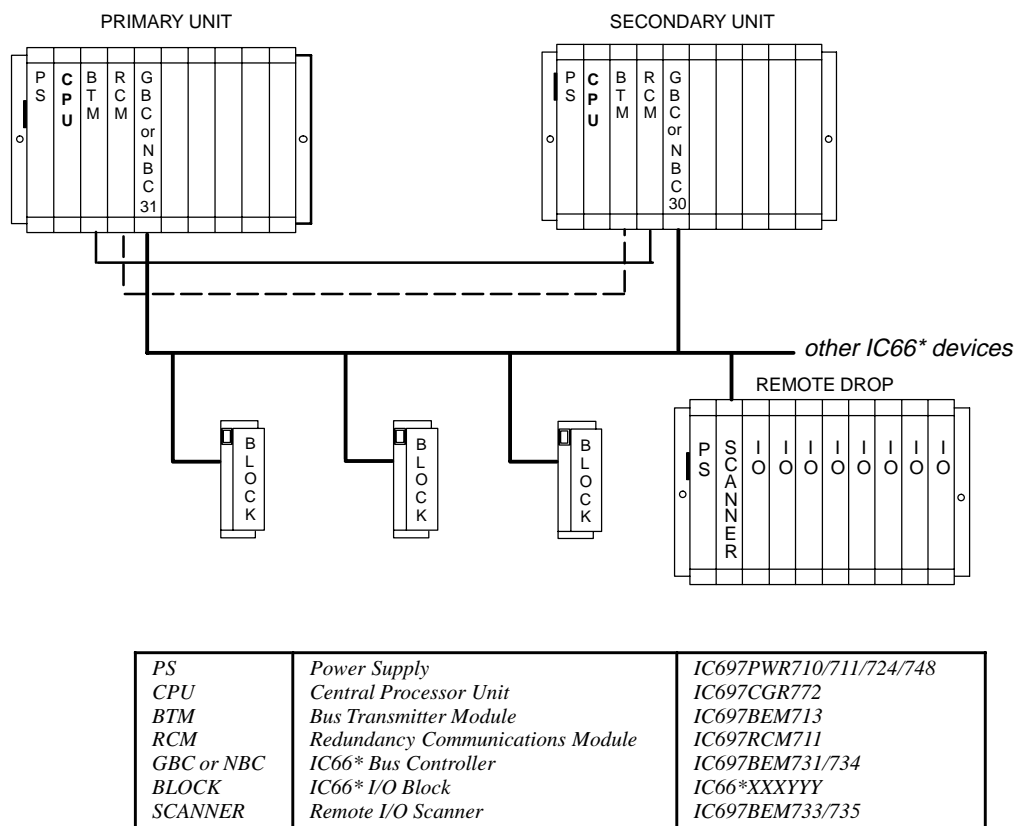

Figure 1. Typical Hot Standby CPU Redundancy System Configuration
The CGR772 is used as the controller in a CPU Redundancy system. Two redundancy control methods can be configured using the CGR772. The GHS method (IC660/661 Hot Standby) uses multiple single bus IC660/661 I/O networks with one redundant controller in each synchronized PLC. The GDB method (IC660/661 Dual Bus) uses multiple dual bus IC660/661 I/O networks with two redundant controllers in each synchronized PLC. The location of the CGR772 modules in a *typical* Hot Standby CPU Redundancy system is shown in Figure 1.
- Install in slot 1 of rack 0. (See Figure 1)
- Turn on power. The module should power up and the top left (OK) LED should blink. When the diagnostics have completed successfully, the top left LED stays on and the second (RUN) and third (EN) LEDs are off. The fourth (bottom left) LED (MEM PROTECT) is off if the keyswitch is in the OFF position. The CPU is now ready to be programmed (if connected parallel, the CPU can be programmed regardless of key position). After the program has been verified the toggle switch can be moved to the appropriate operation mode position; RUN WITH OUTPUTS ENABLED, RUN WITH OUTPUTS DISABLED, or STOP. The LEDs indicate the position of the toggle switch, memory protection status, status of serial port activity, and the state of the program.
The programmer connects to the top port on the Bus Transmitter Module (IC697BEM713) system interface module for a parallel interface (MS-DOS programmer only) as shown in Figure 1